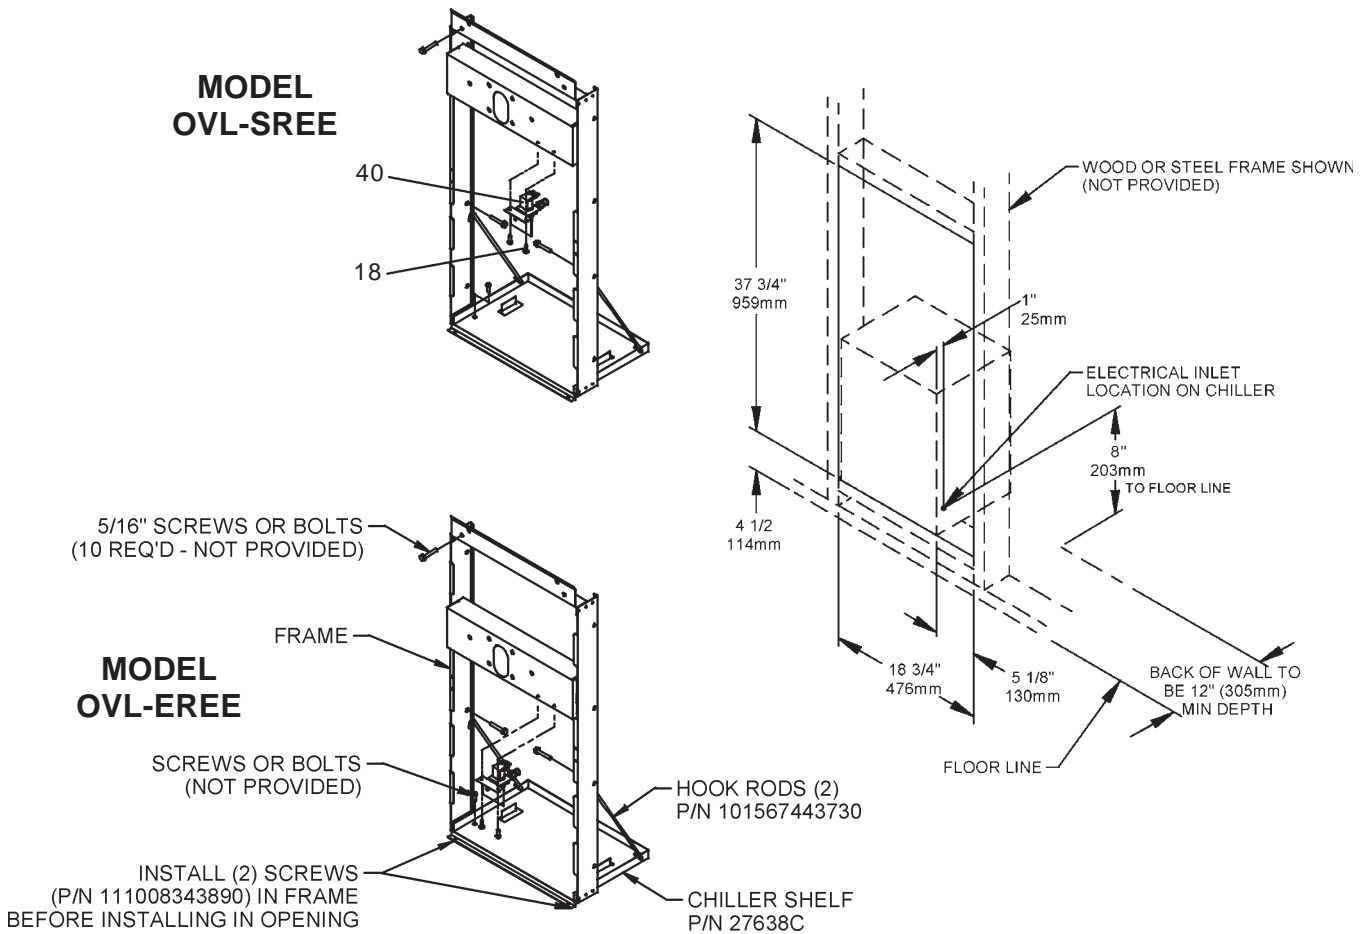

Figure 10 – Rough-In Assembly Single-Station Mounting Frames
1. **Cut a rectangular wall opening** 18-3/4" (475 mm) W x 37-3/4" H (959 mm) and 4-1/2" (114 mm) above the floor line (see Figure 10). The dimensions are required to obtain proper rim and bubbler heights for compliance with ANSI standard A117.1.